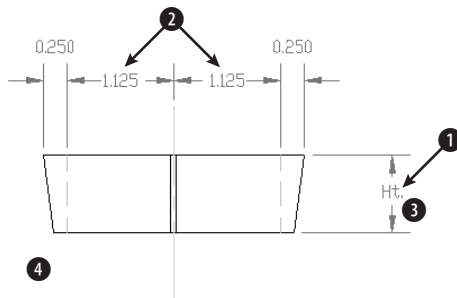

Figure 14-41: A dimensioned cross section of a valve part
2. Save the file as `ab14-10.dwg` in your AutoCAD Bible folder. This is a cross section of a valve part, as shown in Figure 14-41. Open the Dimension toolbar if it is not displayed.
3. To replace the dimension marked *Ht.*, choose **Modify** ⇨ **Object** ⇨ **Text** ⇨ **Edit**. At the **Select an annotation object or [Undo]:** prompt, choose the dimension at ❶ in Figure 14-41. The Multiline Text Editor opens with the text displayed. Select the current text and type <>. Click OK. AutoCAD automatically creates the original measured dimension. Press Enter to end the command.
4. Select the two dimensions marked ❷ in Figure 14-41. Also select the cyan center line and the two green hidden lines. Choose **Quick Dimension** from the **Dimension** toolbar. At the first prompt, right-click and choose **Edit**. At the **Indicate dimension point to remove, or [Add/eXit] <eXit>:** prompt, choose the two edit points (each marked with an “x”) on the cyan center line. Right-click and choose **Exit**. At the **Specify dimension line position, or [Continuous/Staggered/Baseline/Ordinate/Radius/Diameter/ datumPoint/Edit/SeTtings] <Continuous>:** prompt, place the dimension line where it was previously. (You can use the outside arrows as a guide.)
5. Pick the dimension at ❶. Click the grip on the text to activate it. Drag it to the left slightly to place it closer to the object it is dimensioning.